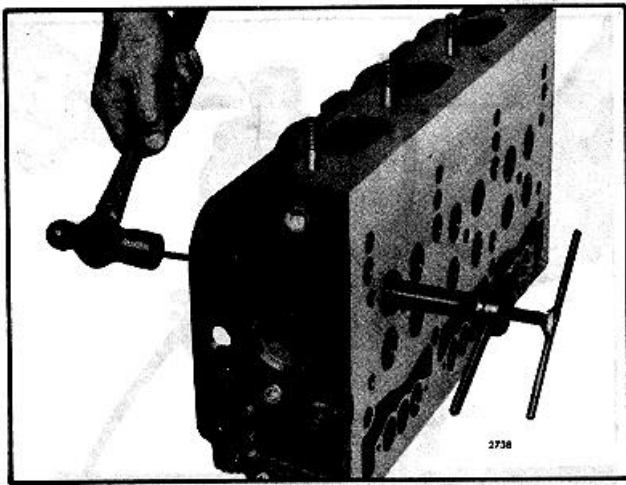

Fig. 9. Removing Valve Seat Insert
1. Place the cylinder head on its side as shown in Fig. 9.